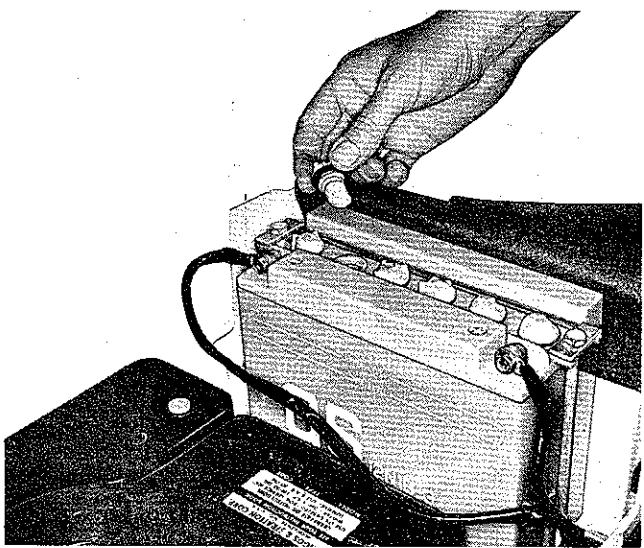

FIGURE 25
6. Check the Battery Water Level to insure it is maintained at the battery fill line approximately one-fourth inch above the plates. If water is needed, add distilled water just before charging to mix the solution. **DO NOT OVER FILL THE BATTERY.** (See Figure 25).